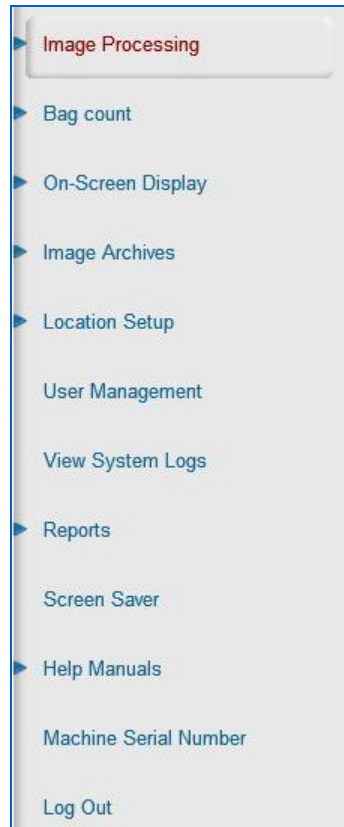

Figure 155: Administrator Menu
Left-clicking on the screen brings up the Maintenance Management menu (Figure 155). This menu allows the supervisor to change specific settings for the 636XR. Right-clicking on the screen will collapse a menu one step at a time.
3. Click the right touchpad button, which brings up the Administrator Menu (Figure 155)